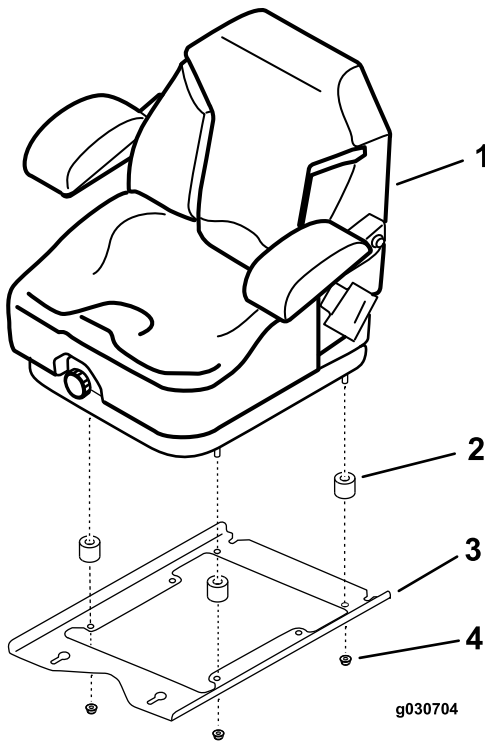

Figure 2
2. Install a spacer onto each seat stud (Figure 2).
3. Secure the seat frame to the seat with 4 flange nuts (5/16 inch) (Figure 2).